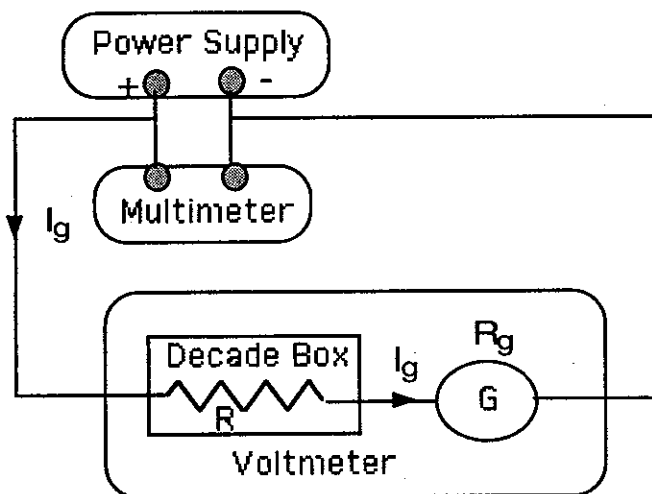

Fig. 4.4
- (i) Make the circuit as shown in Fig. 4.4. The multimeter should be set to read D.C. voltage. Adjust R to the value obtained in step (h).